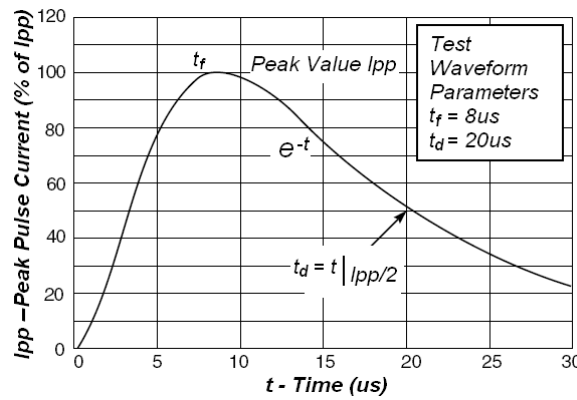

Fig2. Pulse Waveform
1).8/20 waveform used. (see fig2.)